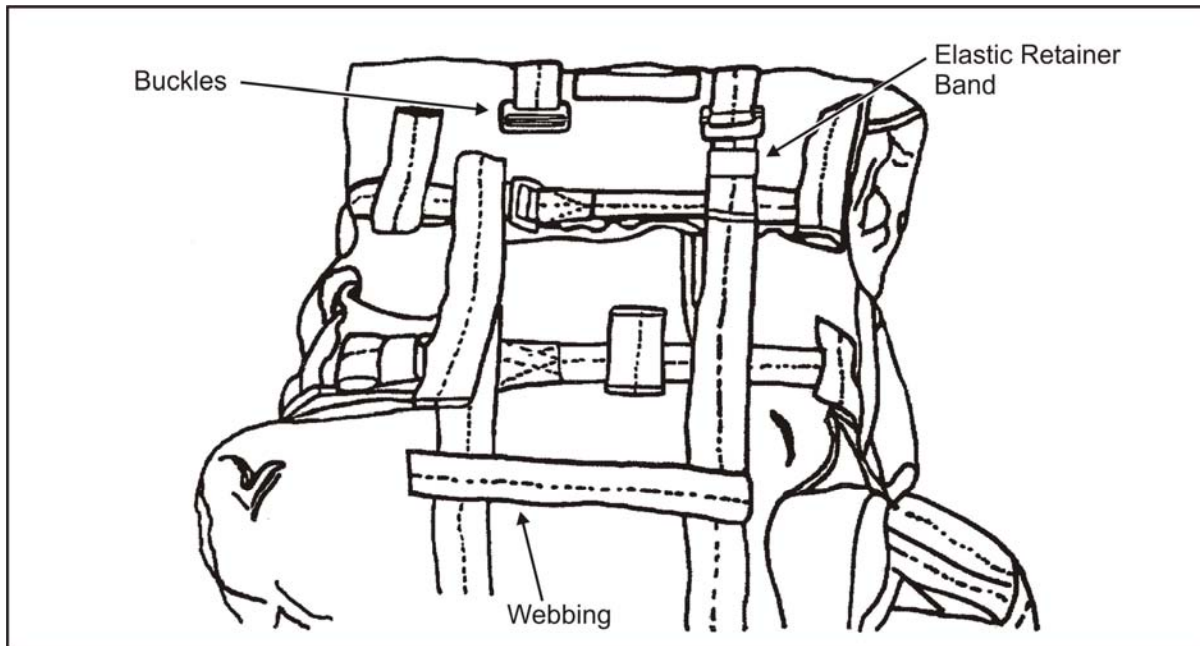

Figure 5-19. SARPELS With Secured Vertical Straps
- Inserts the vertical straps through the webbing and buckles (Figure 5-19, page 5-20).